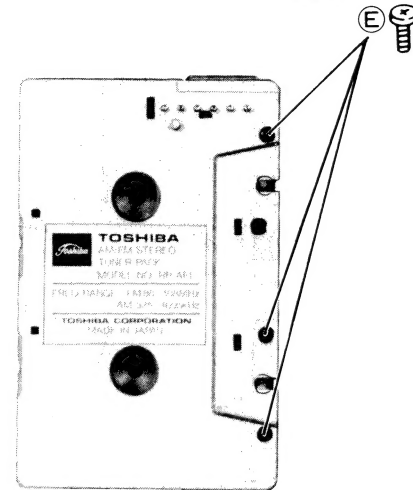

Figure 9
1. Remove three screws (E) from the bottom cabinet to take the upper cabinet out. (Figure 9)